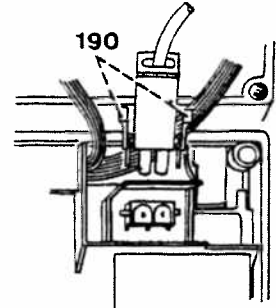

Fig. 39a
- Press the two catches 190 of the motor plug together and pull it out upwards (fig. 39a).
- Place the three flat cables in the cable channel (fig. 39a).